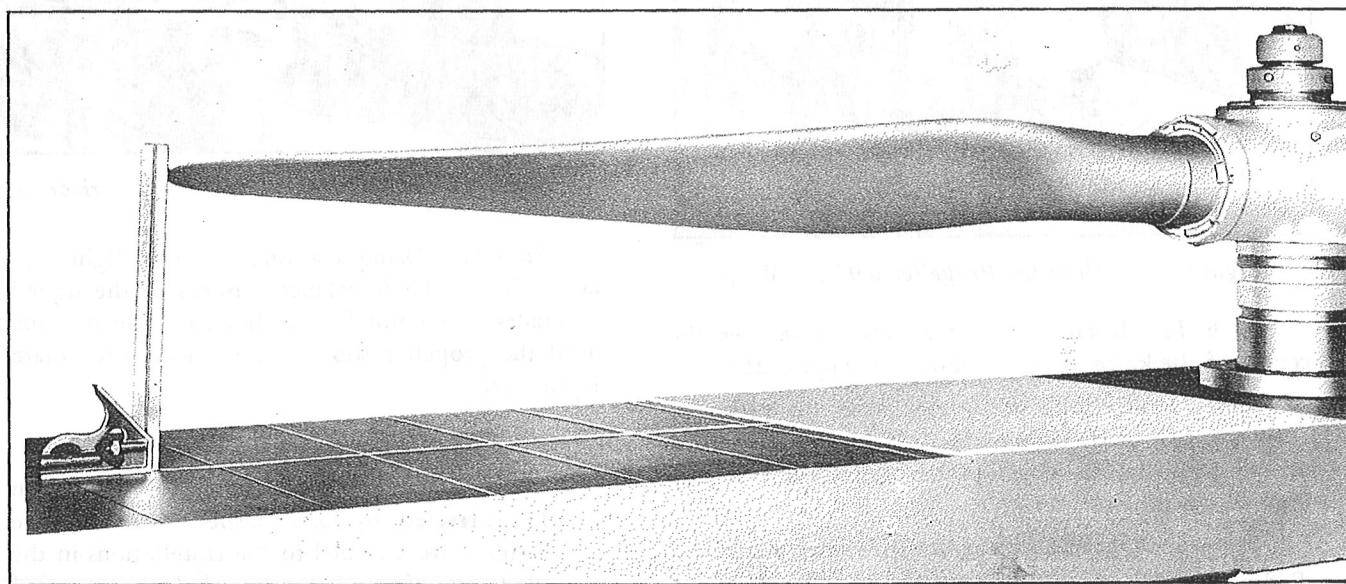

Figure 222—Checking the Blade Track
*Step 3.*—Measure the distance from the table to the center line of each blade tip, as shown in Figure 222.